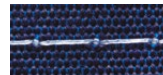

Figure 3
2. The bobbin thread tension should be adjusted as low as possible for a flat or running stitch on the bobbin thread. (See Figure 3).
If the top thread tension is too high or the bobbin thread tension too low, flat or running stitches appear on the top of the fabric as shown in Figure 3.